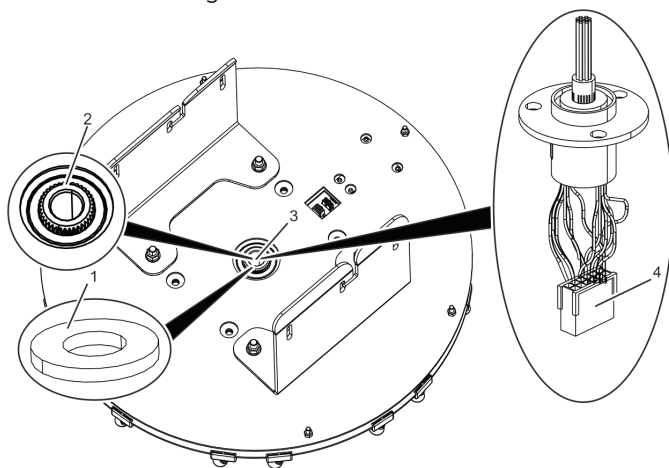

Fig. 60 Remove the toothed shaft and collector
1. Remove the collector (Fig. 60/4) from the middle of the drive (Fig. 60/3) from the top.
2. Remove the toothed shaft (Fig. 60/2) from the middle of the drive (Fig. 60/3) from the top.